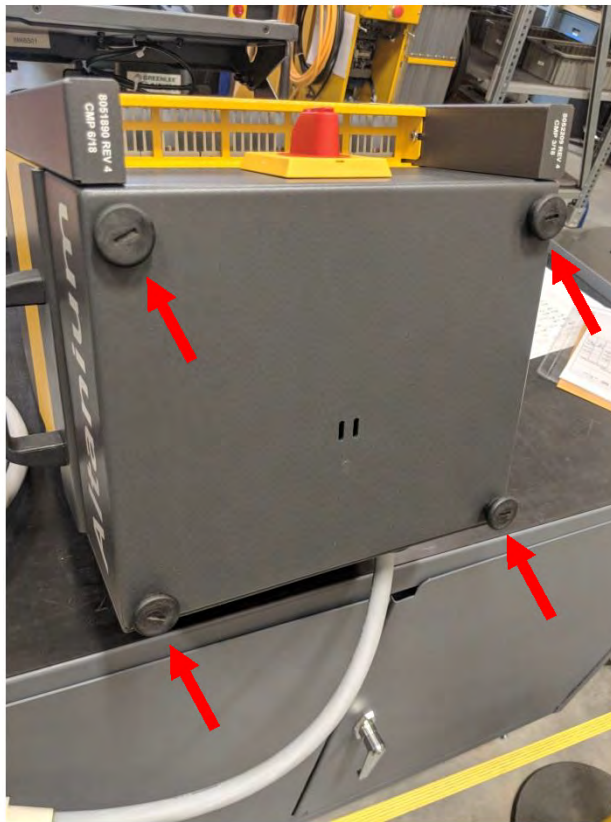

Figure 16-49 Remove Leveling Pads
1. Carefully place the Neo5 controller on its side to locate and remove the 4x leveling pads (refer to Figure 16-49).